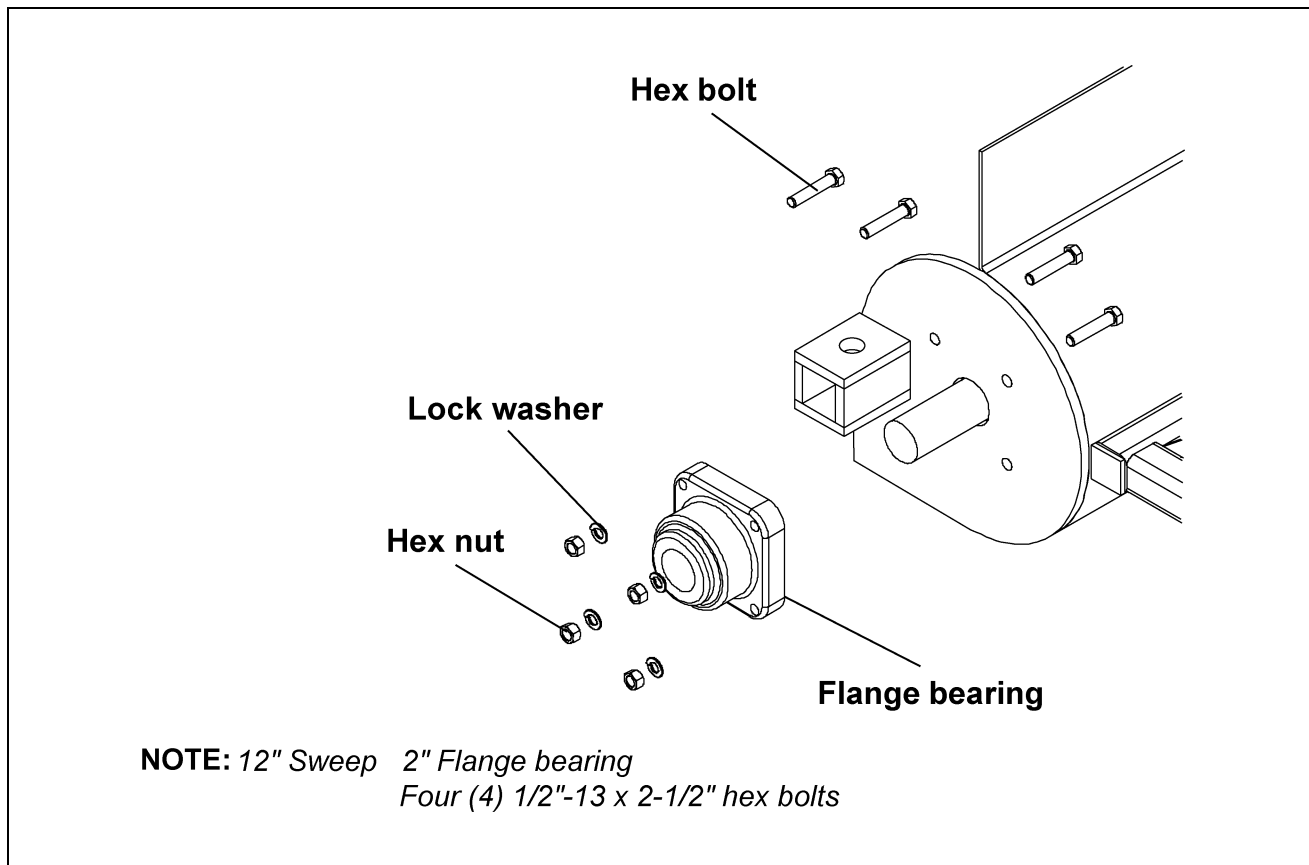

Figure 5F
A. Slide the flange bearing onto the end stub and bolt it to the end plate using hex bolts, lock washers and hex nuts as shown in Figure 5F.